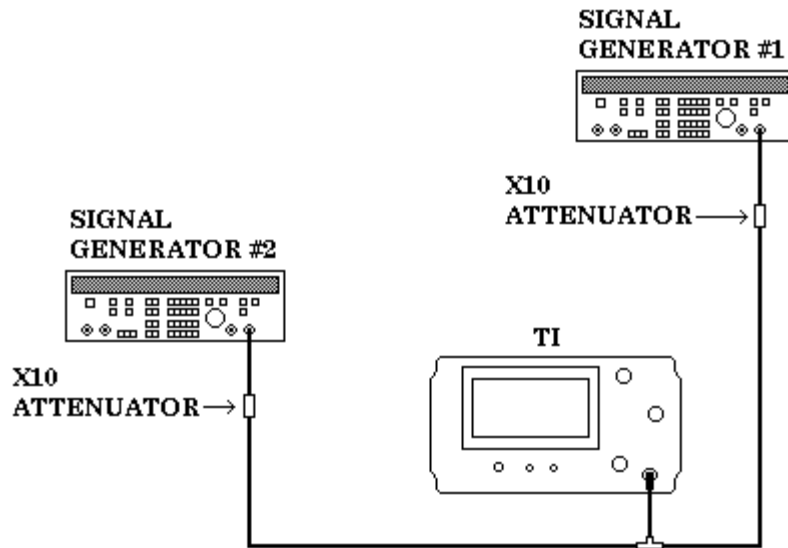

Figure 10. Third order intercept.
- (9) Reduce all outputs to minimum.
- (10) Connect equipment as shown in figure 10 below.